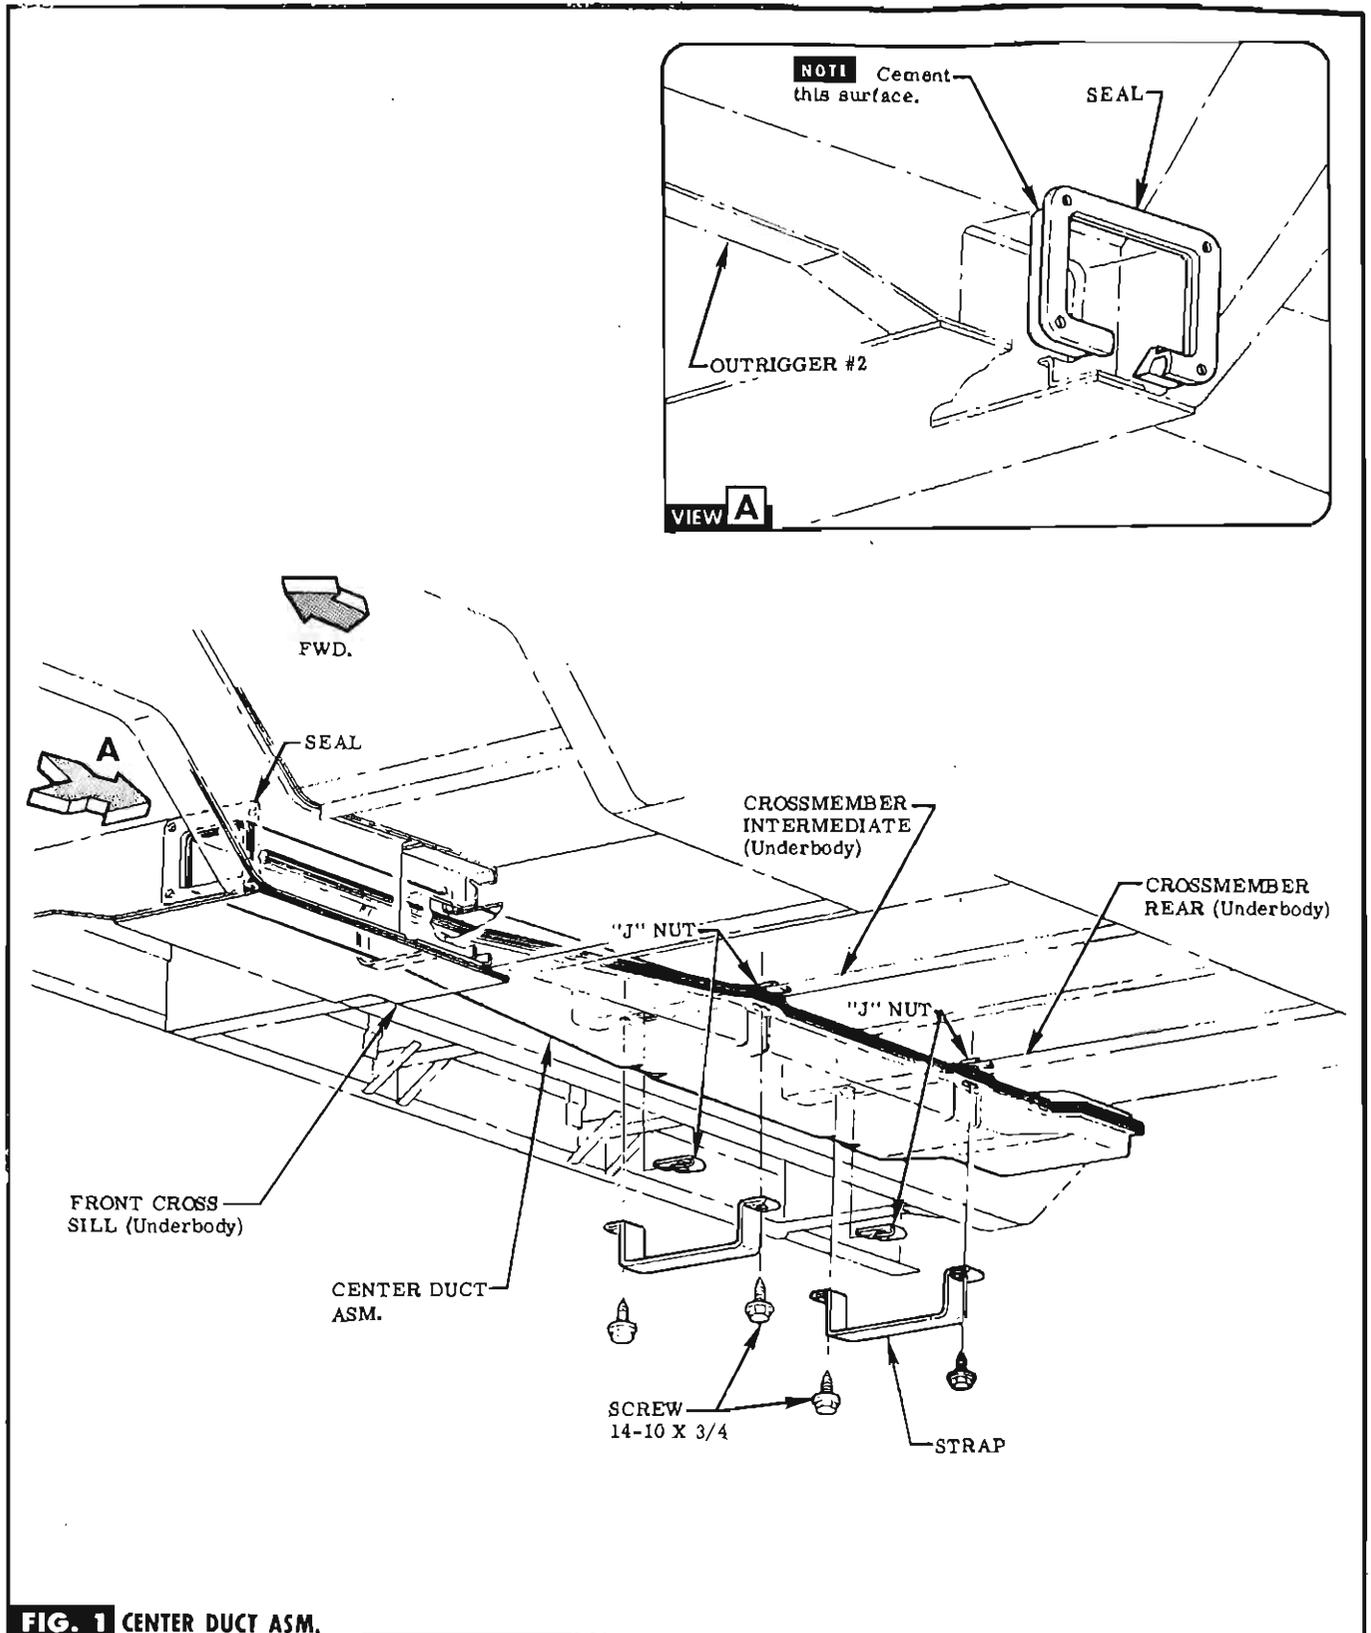

FIG. 1 CENTER DUCT ASM.
STEP 1 CEMENT SEAL TO OPENING ON REAR SIDE OF OUTRIGGER #2 & SLIP J-NUTS (IN BAG B) INTO PLACE ON INTERMEDIATE & REAR CROSSMEMBER. SEE FIG. 1 & VIEW A.
STEP 2 SLIDE CENTER DUCT ASM, FORWARD THRU OPENING IN CROSSMEMBER TO OUTRIGGER #2. INSTALL STRAPS AT NOTCHES IN CENTER DUCT WITH SCREWS PROVIDED (IN BAG B). SEE FIG. 1.